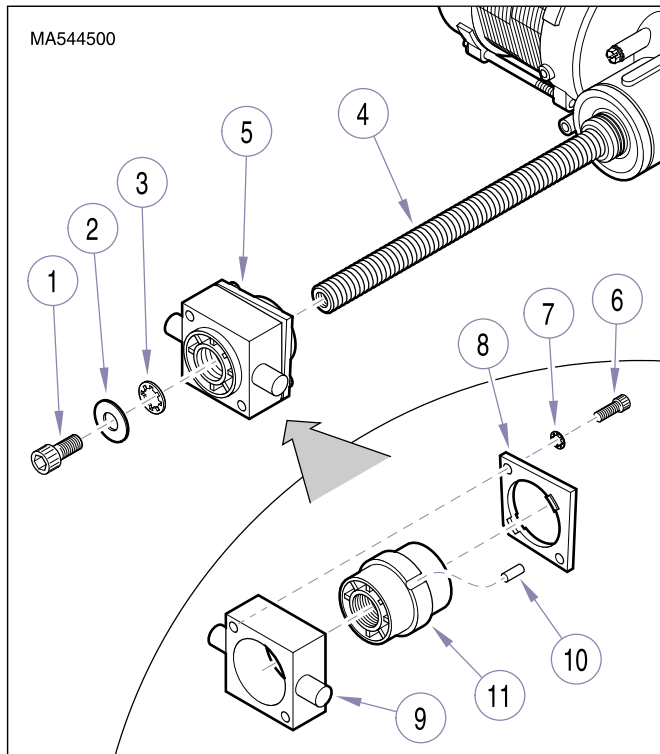

Figure 4-32. Base Motor Trunnion / Drive Nut Removal / Installation
- (1) Remove base motor (Refer to para 4.3).
- (2) Using an 8mm allen wrench, remove socket head screw (1, Figure 4-32), flat washer (2), and lockwasher (3) from motor shaft (4).